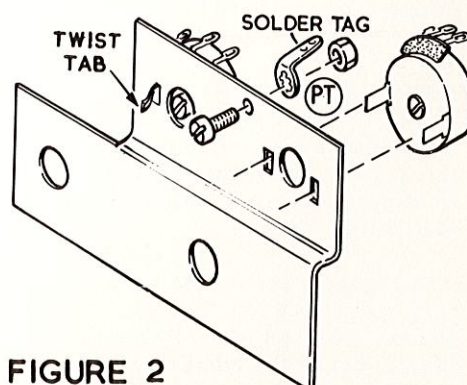

FIGURE 2
Refer to Figure 2 for the following steps:
- () Mount the two controls on the bracket as shown in Figure 2.